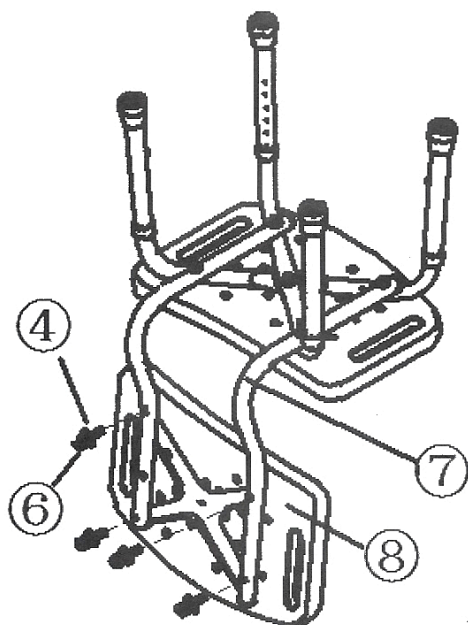

Figure 4
6. Align the back to back support tubes. Loosely install the four mounting screws through vaulted washers, the back support tubes and into the back. Refer to figure 4.